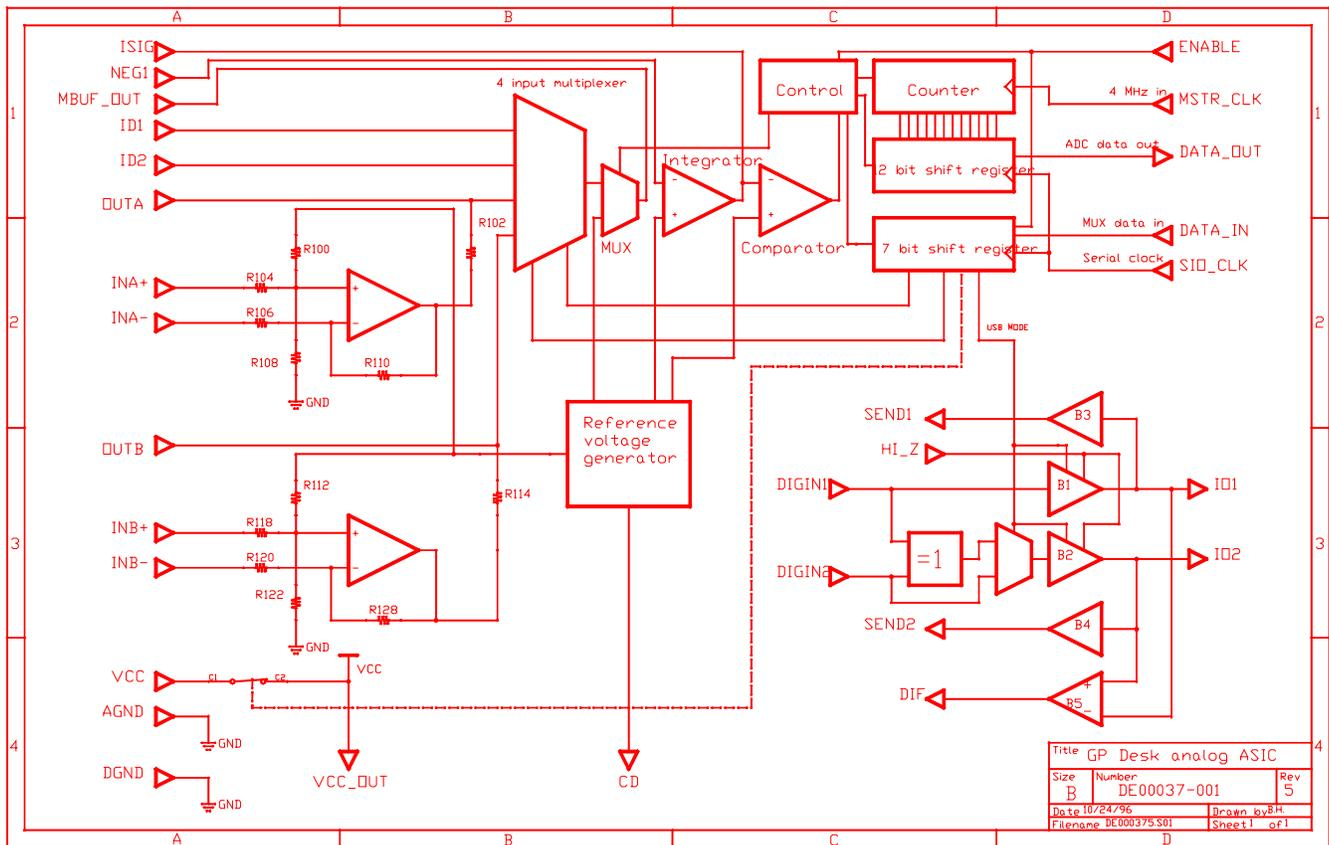

Figure 2: GyroPoint ASIC Block Diagram
The GyroPoint ASIC allows you connect up to four analog inputs that will then be available for digital conversion. Please refer to Figure 2 below which shows the layout of the GyroPoint ASIC in block form.
- The **OUT_A** and **OUT_B** pins are filter taps on the INA+/- and INB+/- channels after analog amplification but before digital conversion. The series resistors on the amplifier output (R114 and R102 shown in Figure 2) are 100K. By attaching capacitors to the **OUT_A** and **OUT_B** pins you can provide additional filtering to the analog signals, thereby greatly improving the signal-to-noise ratio of your data.